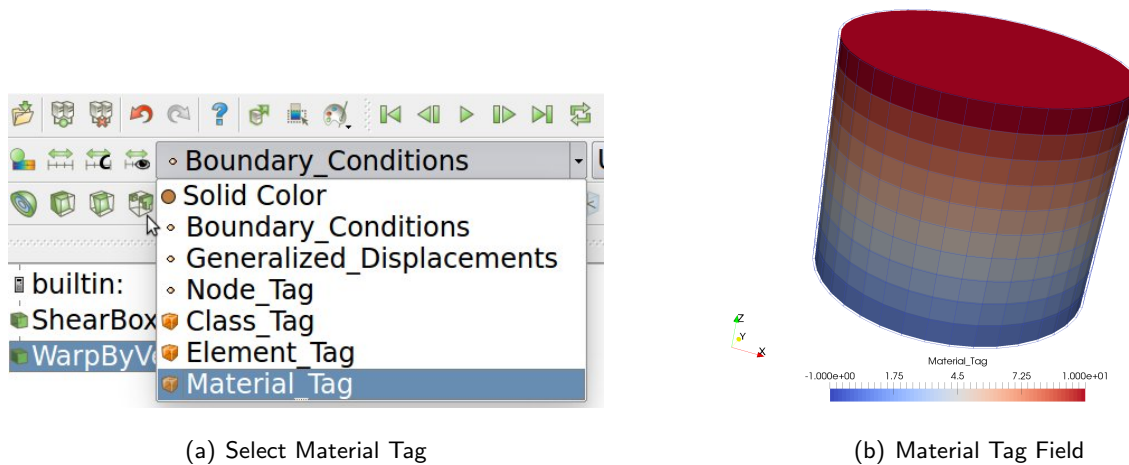

Figure 1.13: Material Tag Visualization.
**Material Tag Visualization :** This is a scalar field visualization that shows the *material tag no* associated with the elements in Real-ESSI simulation. Figure 1.13 shows steps to visualize element's material tag.